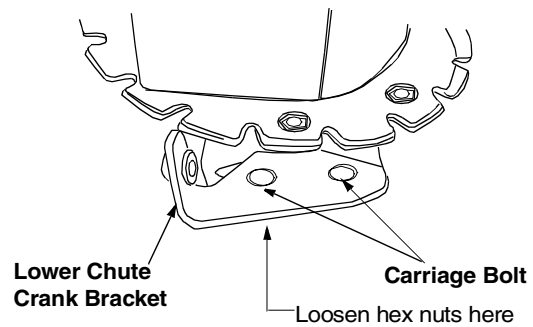

**Figure 4**
- Place the chute flange keeper (flat side down) beneath lip of chute assembly as shown in Figure 4. You will find the chute flange keepers in group E of the hardware pack.
- Insert hex bolt (1/4-20 x .75") and flange nut from group E up through chute flange keeper and chute assembly as shown in Figure 4. Do not tighten at this time. Rotate chute to install all flange keepers.